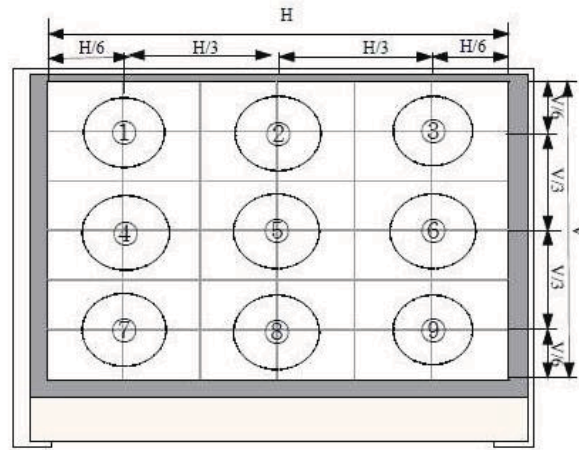

Figure 8. Uniformity Measurement Locations (9 points)
Notes : - Viewing angle is the angle at which the contrast ratio is greater than 10. The viewing angles are determined for the horizontal or 3, 9 o'clock direction and the vertical or 6, 12 o'clock direction with respect to the optical axis which is normal to the LCD surface (see Figure 7). - Contrast measurements shall be made at viewing angle of $\Theta = 0$ and at the center of the LCD surface. Luminance shall be measured with all pixels in the view field set first to white, then to the dark (black) state . (see Figure 7) Luminance Contrast Ratio (CR) is defined mathematically.$CR = \frac{\text{Luminance when displaying a white raster}}{\text{Luminance when displaying a black raster}}$ - Luminance of white is defined as luminance values of center point of the LCD surface. Luminance shall be measured with all pixels in the view field set first to white. This measurement shall be taken at the locations shown in Figure 8 for a total of the measurements per display. - The White luminance uniformity on LCD surface is then expressed as : $\Delta Y = \text{Minimum Luminance of 13 points} / \text{Maximum Luminance of 13 points.}$(see Figure 8 and Figure 9). - The color chromaticity coordinates specified in Table 5 shall be calculated from the spectral data measured with all pixels first in red, green, blue and white. Measurements shall be made at the center of the panel. - The electro-optical response time measurements shall be made as Figure 10 by switching the “data” input signal ON and OFF. The times needed for the luminance to change from 10% to 90% is T_f, and 90% to 10% is T_r. - Cross-Talk of one area of the LCD surface by another shall be measured by comparing the luminance (YA) of a $10 \pm 1\text{mm}$ diameter area, with all display pixels set to gray 127(of 0 to 255), to the luminance (YB) of that same area when any adjacent area is driven dark.The luminance ratio shall not exceed 1:1.05 (See Figure 11).
The White luminance uniformity on LCD surface is then expressed as : $\Delta Y_9 = \text{Minimum Luminance of nine points} / \text{Maximum Luminance of nine points}$ (see Figure 8) .